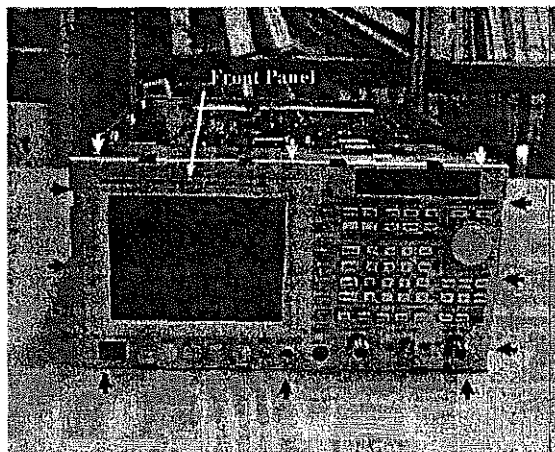

Figure 5-6 Location of Screws
5. Remove front panel to remove 12pcs screws referring Figure 5-6 of the location.